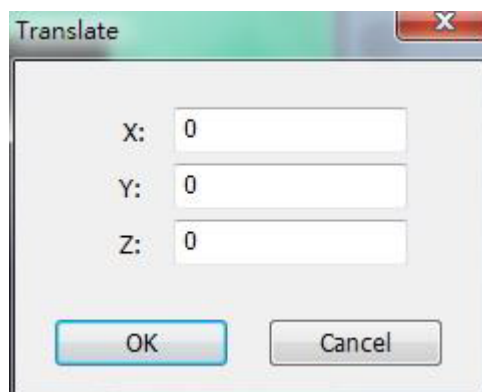

Fig.6-7
- (1) Function: To move the original point of the coordinate by inputting number into the window shown in Fig.6-7.
- (2) Operation procedure:
Select "coordinate→translate coordinate" order in the menu, below window (Fig.6-7) will popup. Input the intended number in the window, then click "confirm" button to move the coordinate.
Select "coordinate→translate coordinate" order in the menu, a window (Fig.6-7) will popup. Input the intended number in the window, then click "confirm" button to rotate the coordinate.